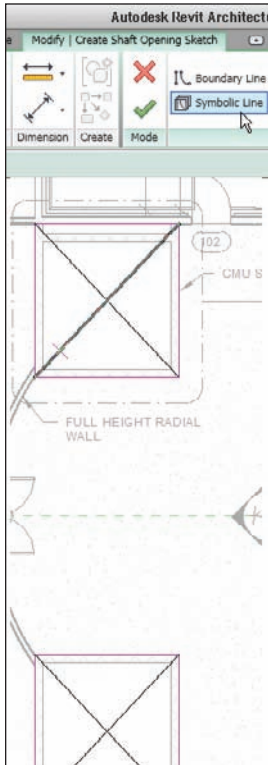

FIGURE 6.57 You can add any “drafting” symbolic lines you deem necessary.
7. Draw an "X" in both openings, as shown in Figure 6.57.